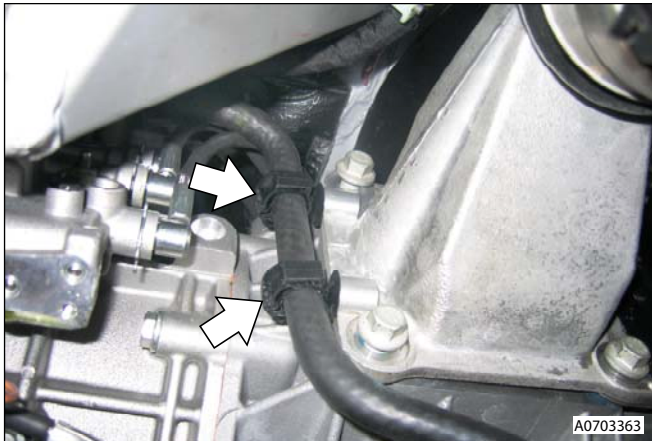

Figure 12
35. Put a transmission jack below the transaxle (refer to Figure 12).